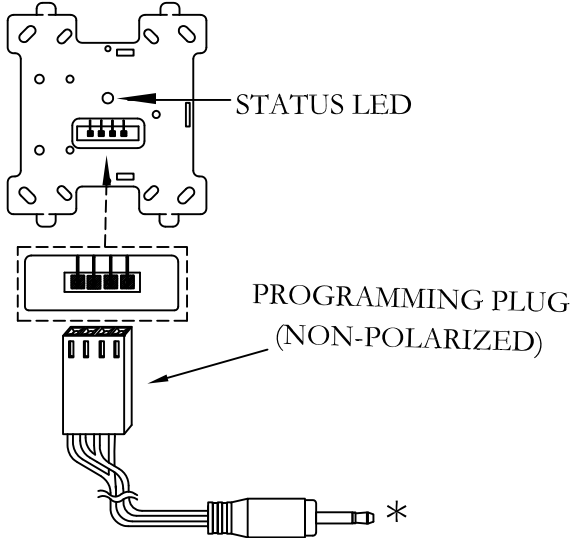

FIGURE 1A FRCMA
- 3) The address must be set on the FRCMA before the cover plate is attached (see Fig. 1A).